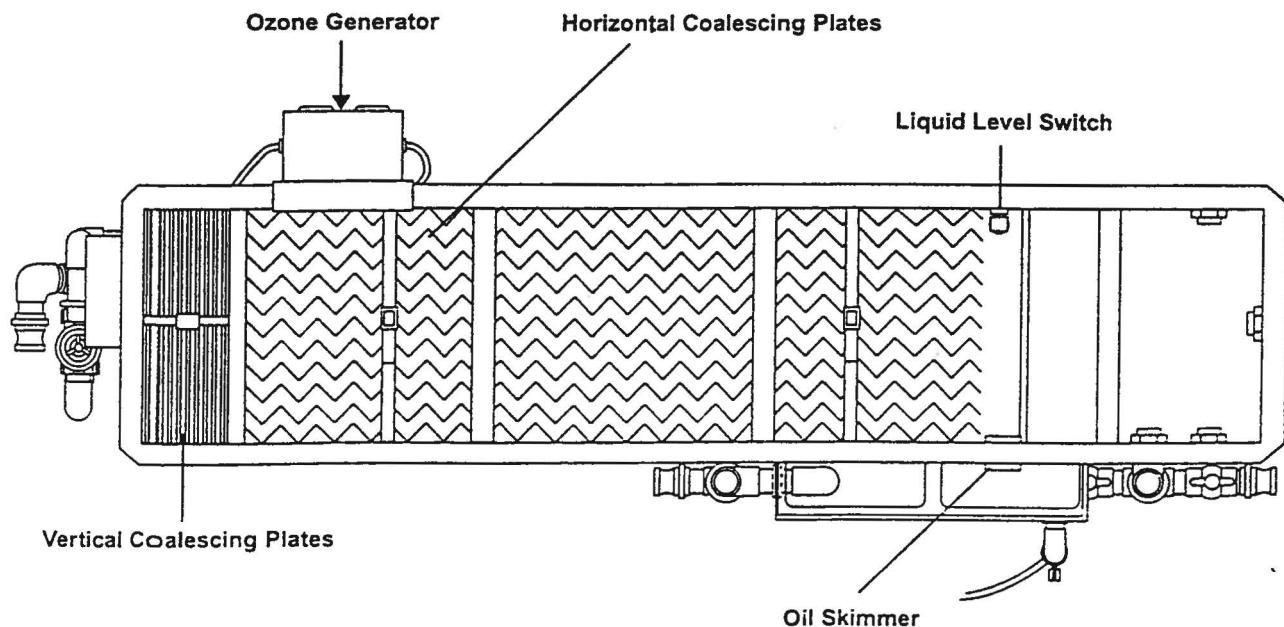

Figure 7
- Check the overflow shutoff switch by manually lifting the liquid level switch (see Figures 7, 8 & 9).
- Remove the vertical coalescing pack (see Figures 7, 8 & 9 for location). To remove, lift with the nylon strap that surrounds the coalescing pack.